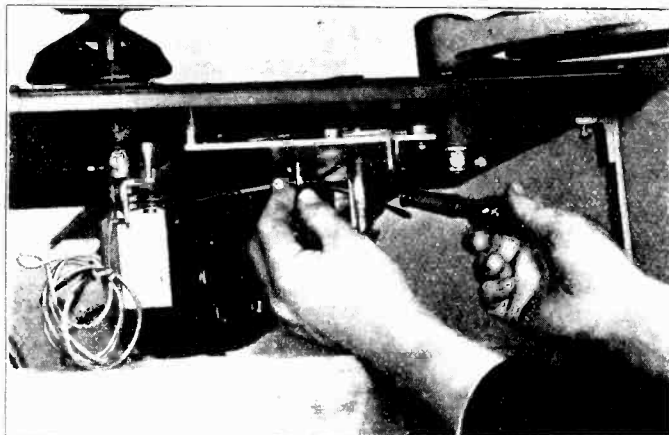

Figure 8 — Adjusting Cable Tension Screw
- (e) *Incorrect Adjustment of Cable Tension Screw*—The cable tension screw 19, Figure 2, should be so adjusted that the needle will lower smoothly onto the record without dropping. When this adjustment is obtained, the cable will be slightly loose when the needle is lowered onto a record. Loosen the lock nuts, turn the screw to the right or left as required (see Figure 8), and retighten the lock nut. Check the adjustment to make sure the needle clears the record on the return of the tone arm. The needle should rise  $\frac{1}{8}$ " from the record before any horizontal motion takes place.